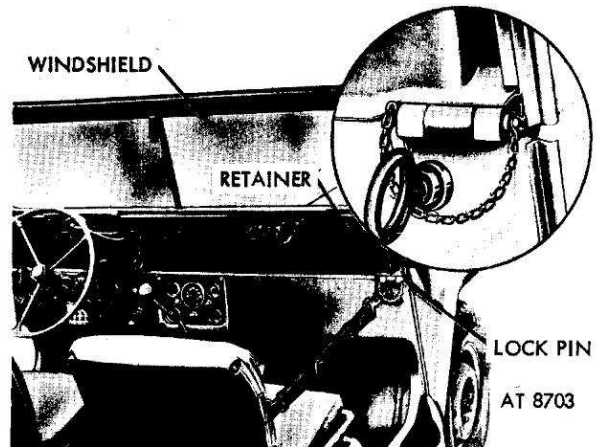

Figure 2-15. Erecting the windshield, hinge lock pins and retainers.
c. After the windshield is unbuckled, raise it and install the two hinge lock pins and retainers as illustrated by figure 2-15.